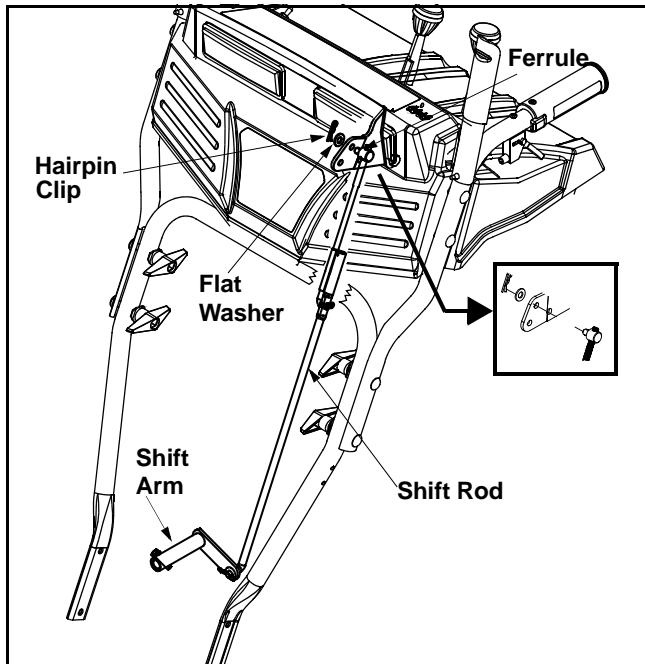

Figure 8
- Remove the hairpin clip and flat washer from the shift handle under the handle panel. See Figure 8.
- Place shift lever in sixth (6) position or fastest forward speed.
- Rotate the ferrule up or down on the shift rod as necessary until the ferrule lines up with the upper hole in the shift lever. See Figure 8.
- Insert ferrule from the left side of the snow thrower into the upper hole. See Figure 8 inset.